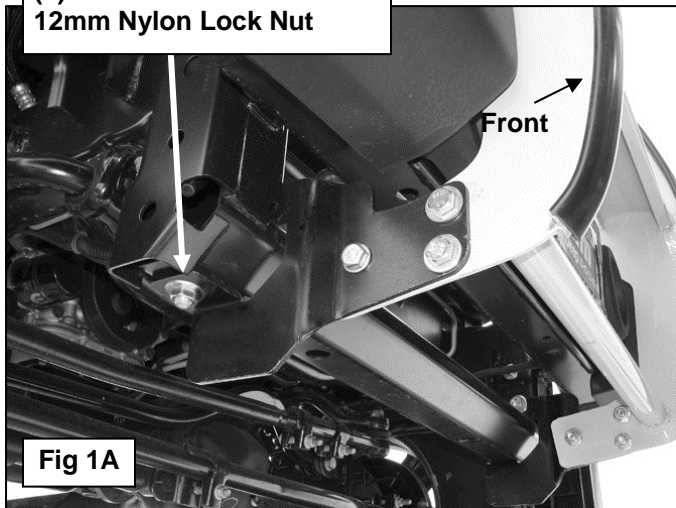
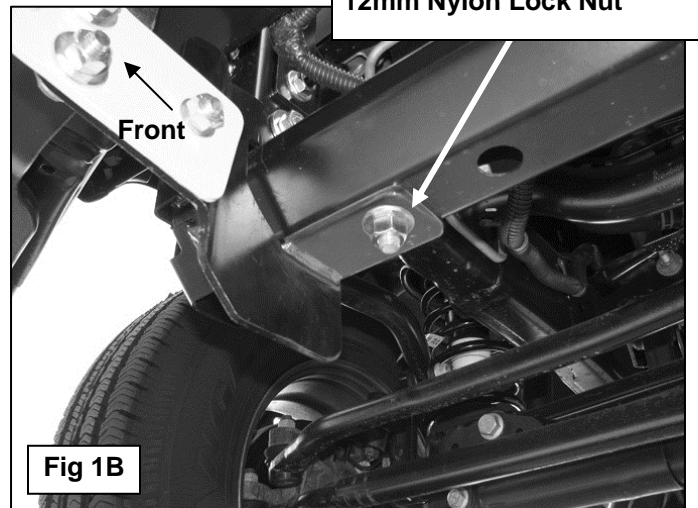

Fig 1A
Fig 1B
3. Select the passenger side Frame Mounting Bracket. Bolt the Frame Mounting Bracket to the bottom of the cross member with (1) 12mm x 30mm Hex Bolt, (2) 12mm Flat Washers and (1) 12mm Nylon Lock Nut. **NOTE: 07-09 models** will use the outer mounting location (**Fig 1A**), and **2010-13 models** will use the inner mounting location, (**Fig 1B**). Insert (1) 12mm x 30mm Hex Bolt, (2) 12mm Flat Washers and (1) 12mm Nylon Lock Nut through the upper tab on the side of the Mounting Bracket upright and tighten hardware at this time, (**Fig 2**). Repeat this step to install the driver side Frame Bracket, (**Fig 1C**).